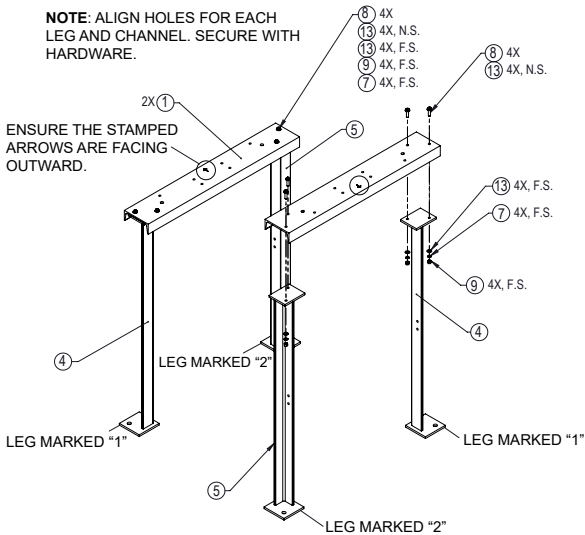

Figure 1. Assemble Legs and Channel Base
1. Stand four (4) leg assemblies (Item 4 & 5: Qty 2) vertically. Place each Channel Base Rack (Item 1: Qty 2) on top of the leg assemblies. Secure the assemblies using the provided bolts nuts and washers (Items 7, 8, 9 & 13). See **Figure 1**.